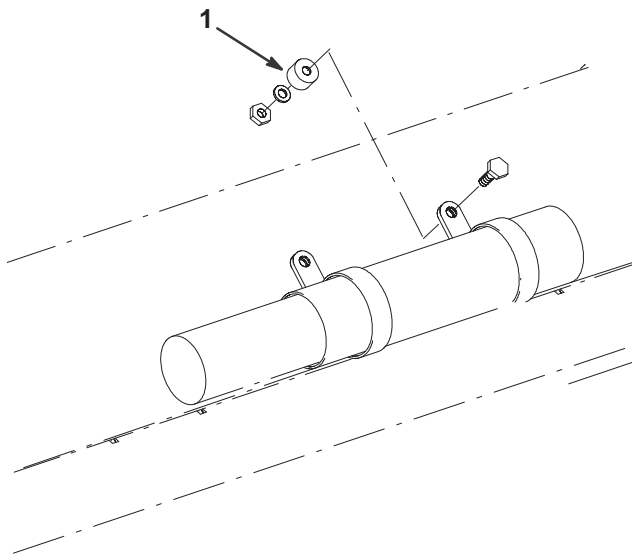

Figure 5
1. Remove 1 of the R-clamp bolts, lock washers, and nuts securing manual tube to frame (Fig. 5).
2. Install R-clamp assembly washer to frame with new hex head bolt (M10-1.5 x 45), new assembly washer, old lock washer, and old nut (Fig. 5). Torque bolt to 38 ft.-lb. (51 N·m).